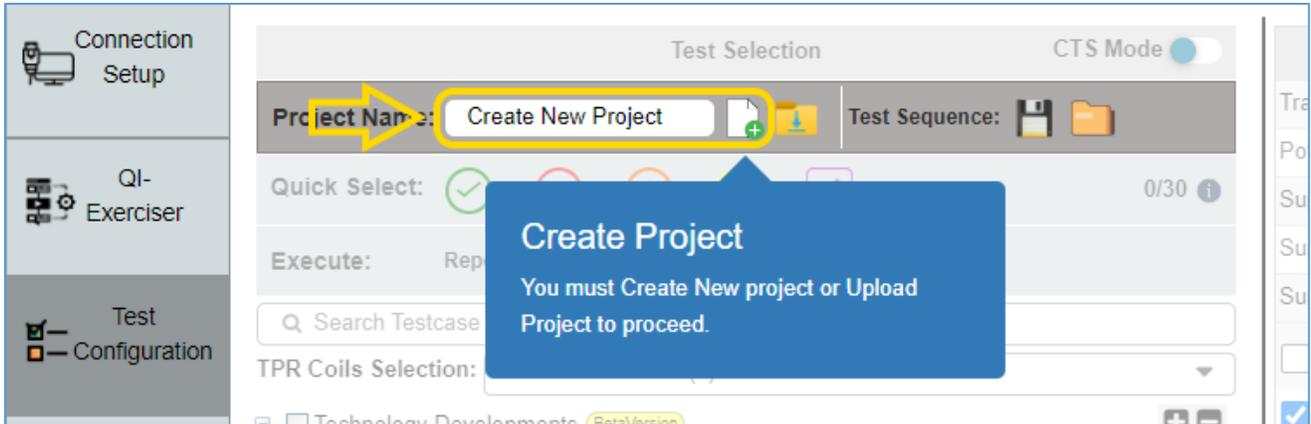

FIGURE 8.31: CREATE NEW PROJECT— #1
1. Click on **Create New Project** as indicated in Figure 8.31 below.